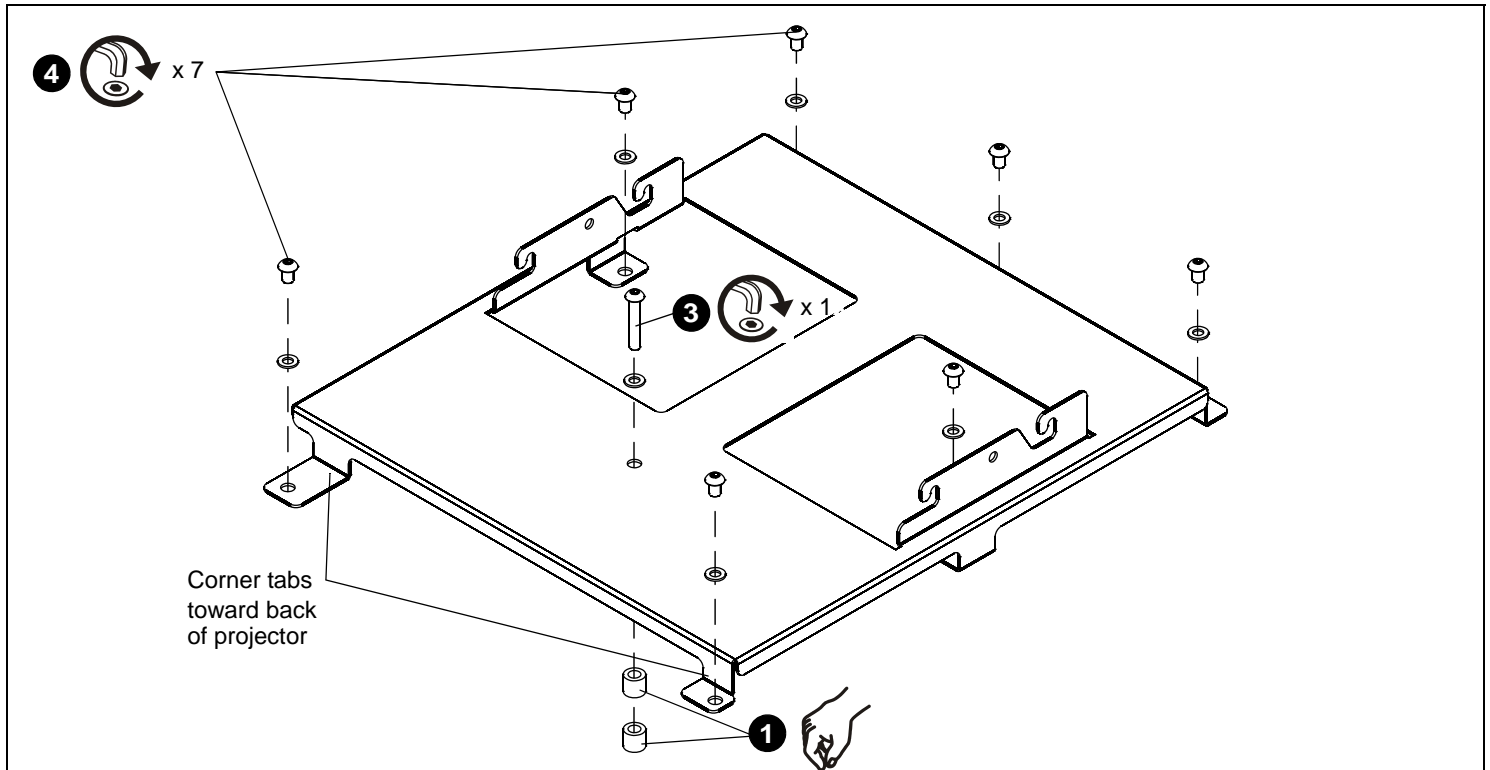

Figure 1:
1. Stack nylon spacers on top of each other and on top of projector under center hole. (See Figure 1)
2. Lower custom HB bracket onto nylon spacers. Ensure that the two corner tabs are toward the back of the projector, and three tabs toward the front. (See Figure 1)
3. Attach HB bracket to projector using one M8 x 45mm button head screw and flat washer through center hole and nylon spacers. (See Figure 1)
4. Install seven M8 x 12mm button head screws and M8 flat washers through corner and end tabs on bracket. (See Figure 1)